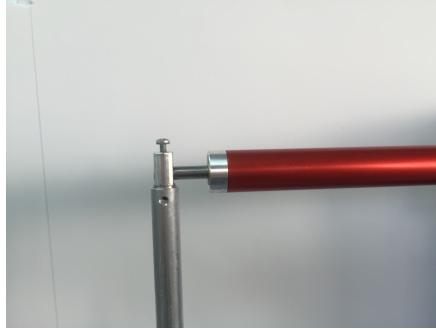

Figure 3: The pendulum arm is fastened with a screw.
The pendulum consists of an arm that rotates in the horizontal plane and is driven by a DC motor. Attached to the end of the arm is a pendulum that is free to rotate in the vertical plane. The pendulum arm is fastened to the horizontal arm by a screw and is removable; see Figure 3.
2. **Pendulum Arm** - The pendulum can be connected to the horizontal arm with a screw. It is free to move in a circular motion in the vertical plane; see Figure 3